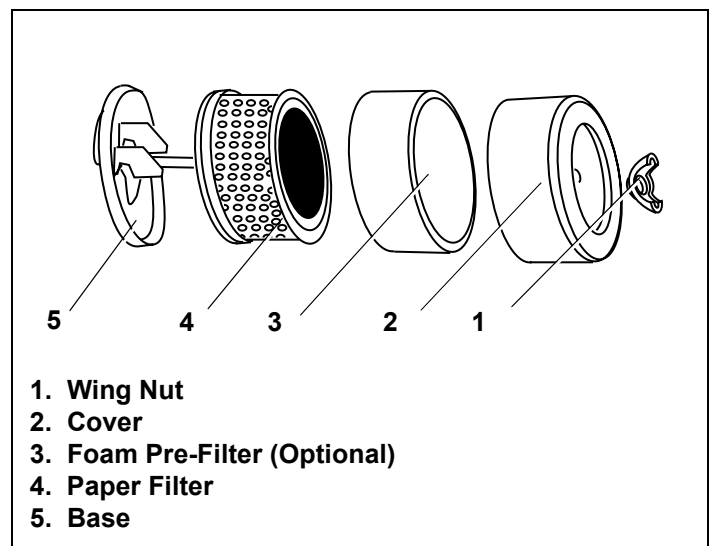

Figure 44. Type "C" Air Cleaner Assembly
1. Remove wing nut. See Figure 44.